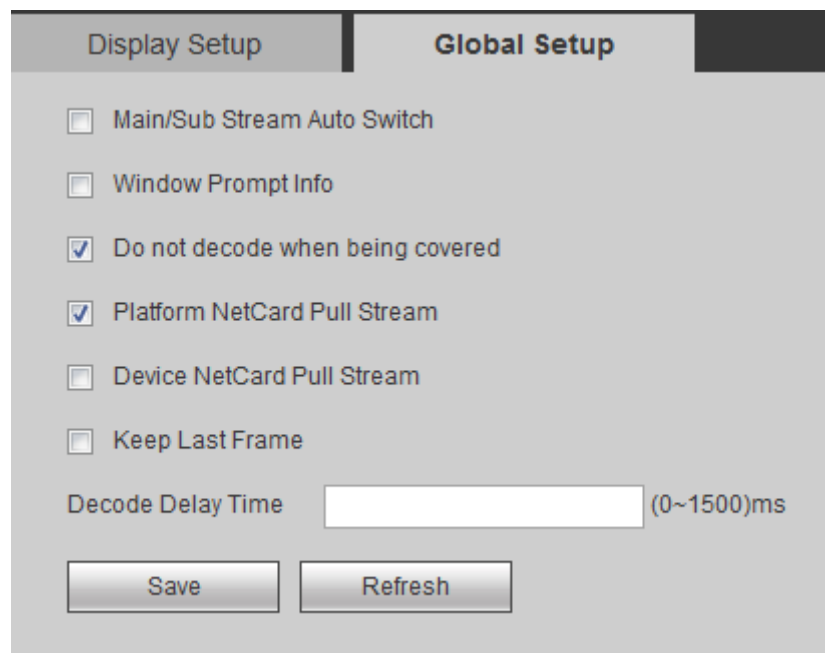

Figure 4-105
Step 1 Select "Setup>Display >Display Setup > Global Setup". The system displays "Global Setup" interface, as shown in Figure 4-105.